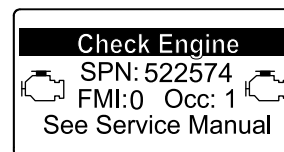

Figure 50
- Engine warning SPN 522574, FMI: 0 (Figure 50)